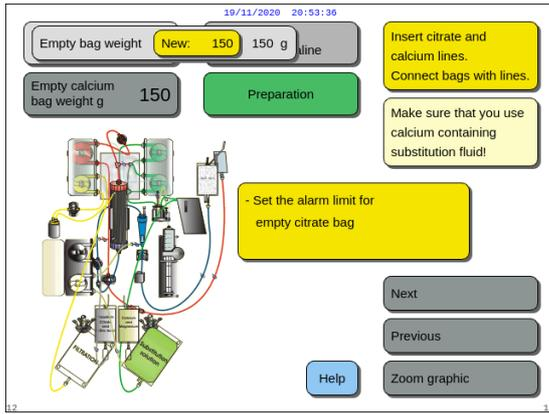

Fig. 73
2. Adjust the new weight by turning the *Main selector button*  left or right as required (Fig. 73).